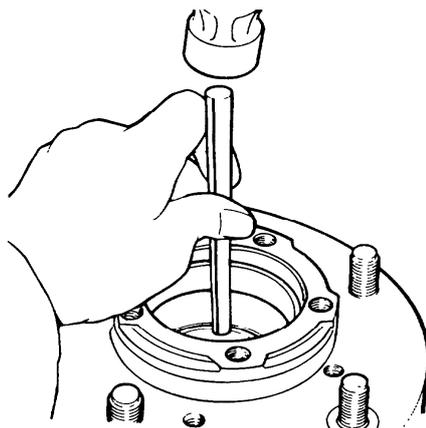

Figure 110 Bearing Cup Removal
- b.** Remove the bearings and using a suitable drift remove the bearing cones (Figure 110).